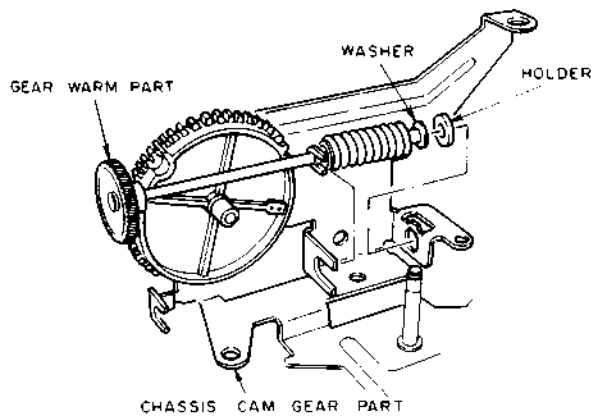

Fig. 4-6
2) Install the GEAR WARM PART as shown in Fig. 4-6.